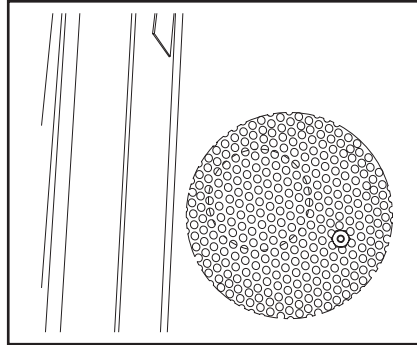

Fig. 33 - Unobstructed drain screen
6. Make sure the drain screen is clean and unobstructed by debris (see Fig. 33).